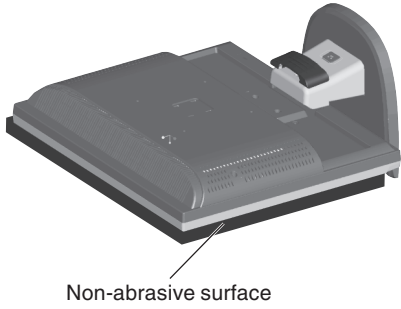

Figure R.1
2. Place monitor face down on a non-abrasive surface (Figure R.1).
1. Place monitor face down on a non-abrasive surface (Figure R.1).